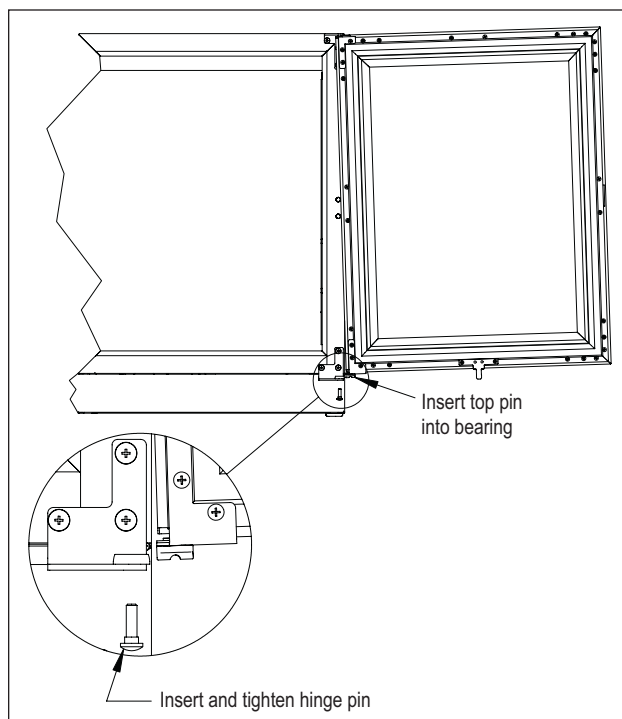

Figure 11. Installing Door
12. Lift door assembly and insert top pin into bearing. Move door toward cabinet and align V-blocks (Figure 11).